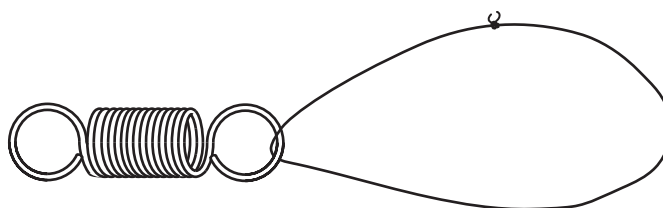

Fig. 1.2
- 3 Another string loop with an approximate circumference of 20 cm should be tied through one of the loops of the spring as shown in Fig. 1.2.